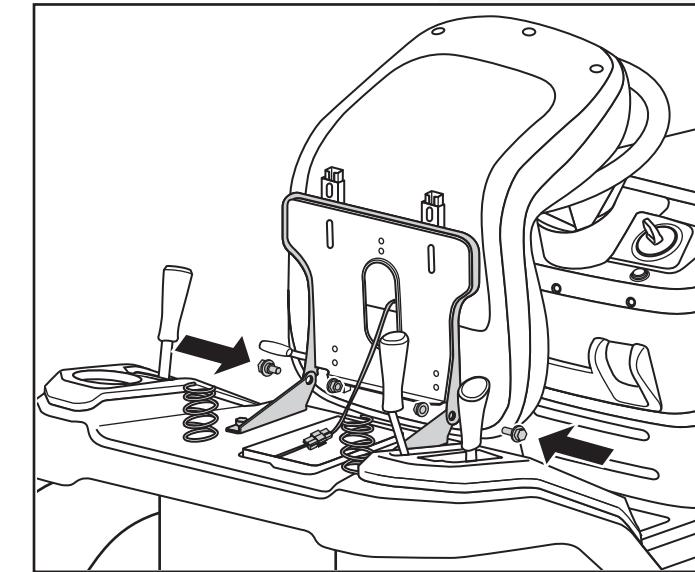

Fig. 7
1. Connect the seat to the mower base with bolts and nuts provided to a torque of 15-19 ft-lbs. (Fig. 7)